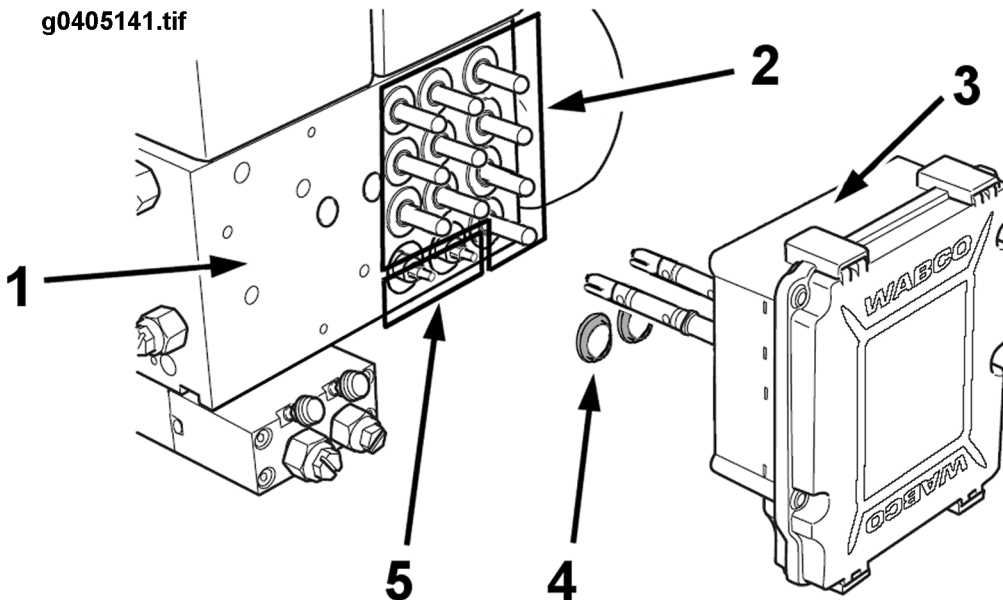

Figure 41 Removal/Installation of Electronic Control Unit
6. Remove the ECU module by pulling simultaneously on all sides. To avoid damage to the HCU, do not cock the ECU module during removal. Refer to FIGURE 41.